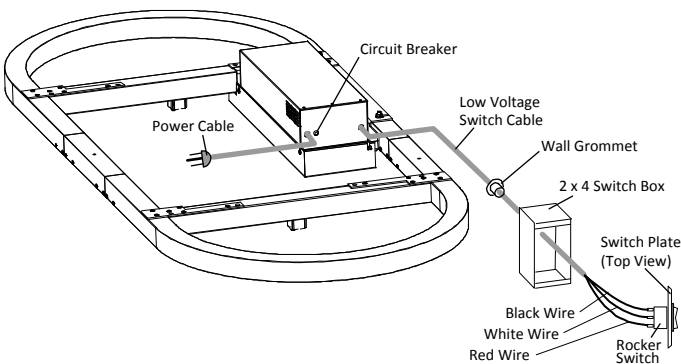

Figure 11
- Connect switch cable wires to switch. Press connectors onto terminals on back of switch as shown in Figure 11.